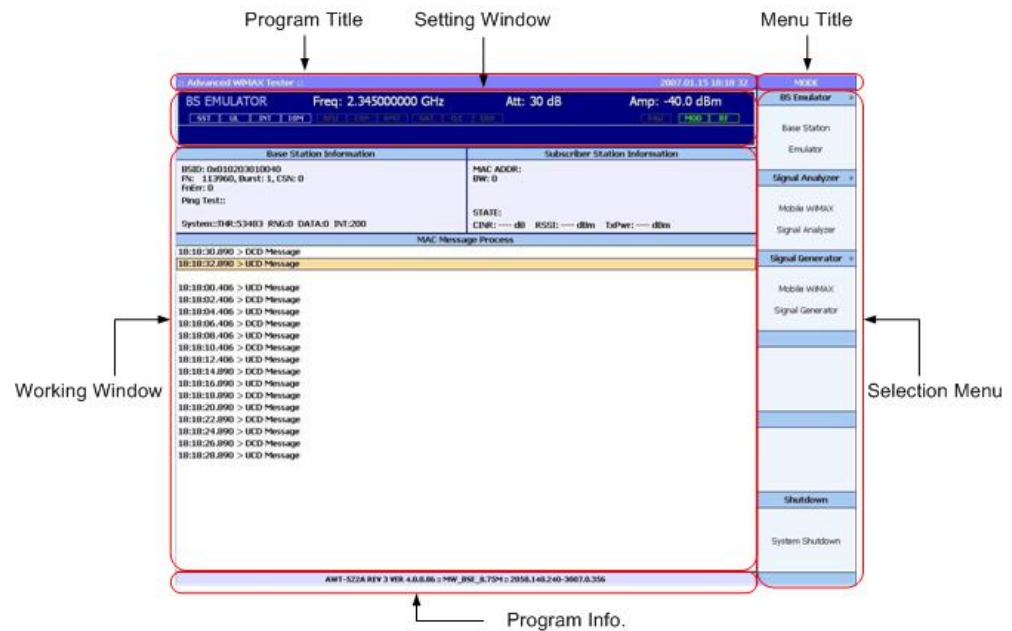

Figure 4 E6651A Test Set Measurement Screen Configuration
- Selection Menu** Selectable menu items are displayed here, aligned with the menu selection buttons. Select individual items using the selection buttons or Mouse. Menu items shown in Figure 4 include the BS Emulator, Signal Analyzer, Signal Generator.